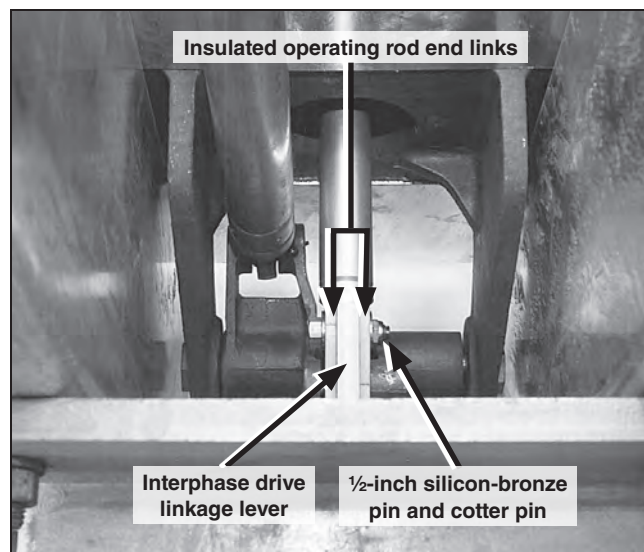

Figure 16. Attaching the insulated operating rod to the interphase drive.
- (g) Attach the insulated operating rod end links to the interphase drive linkage lever in the high-speed base using the $\frac{1}{2}$ -inch silicon-bronze pin and cotter pin retained from Step 1(d) on page 16. See Figure 16. The insulated operating rod may be moved up or down, as required, to make the connection.